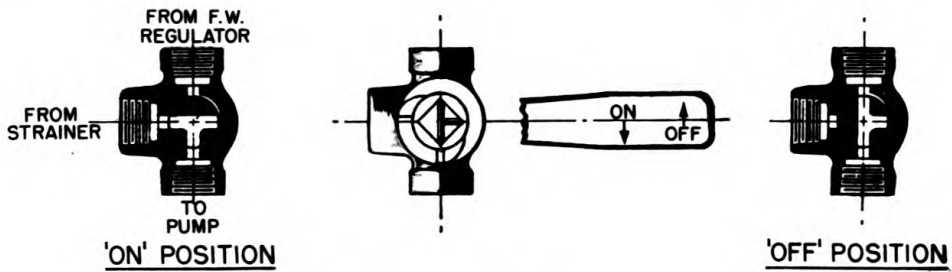

Fig 9. Fog valve.
d. Water flow. (1) Suction. When the engine is started, the fog oil-water pump produces suction with the result that water is drawn from its tank through an orifice located in the elbow entering feed water regulator. The water leaves regulator through an outlet in the base of regulator and flows through fog valve to the pump. (The regulator is kept open by a spring, but when the suction increases to 1 pound per square inch, the regulator diaphragm is acted on by the suction and compresses the spring, partly closing the regulator. This action prevents an oversupply of water by maintaining a constant suction in the feed water regulator.)
(2) Discharge. From the pump, the water is discharged through the inlet line to coil assembly.
e. Fog oil flow. (1) Control. Flow of fog oil is controlled by the fog valve. The valve, diagrammed in figure 9, is an ordinary three-way plug cock which has been altered by cutting of a small groove in the body, so that when the lever of valve is in OFF position, it is still possible for water to pass through valve itself to pump and inlet line.